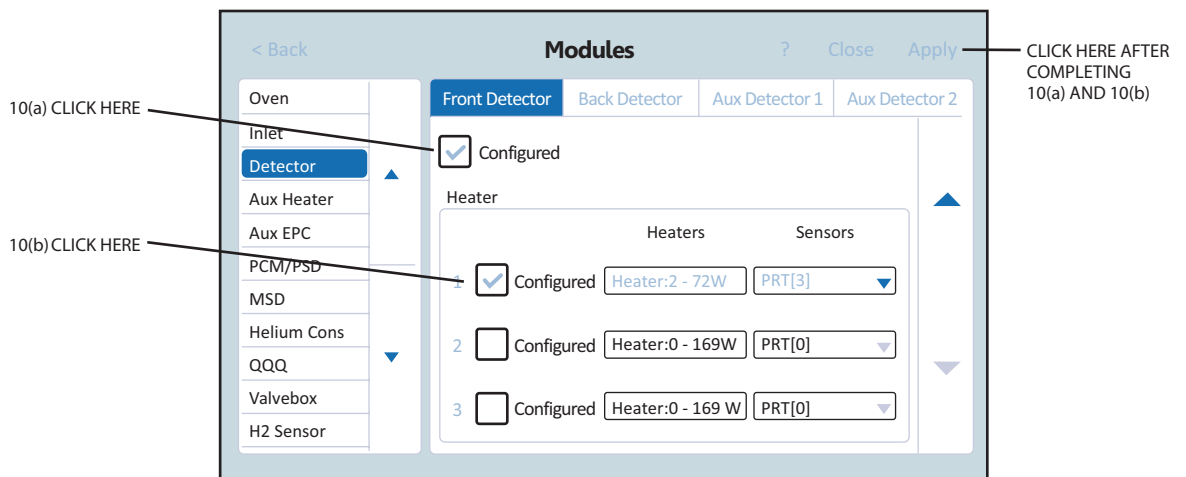

Figure 7: Module Configuration continued
9. Use the down arrow on the right to scroll down to the screen in **Figure 7**.